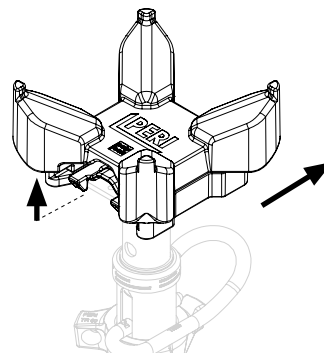

Fig. D1.01d
2. Lift the locking clip (**31.2**) with one finger of the upper hand and withdraw the DFH prophead (**31**). (Fig. D1.01d)